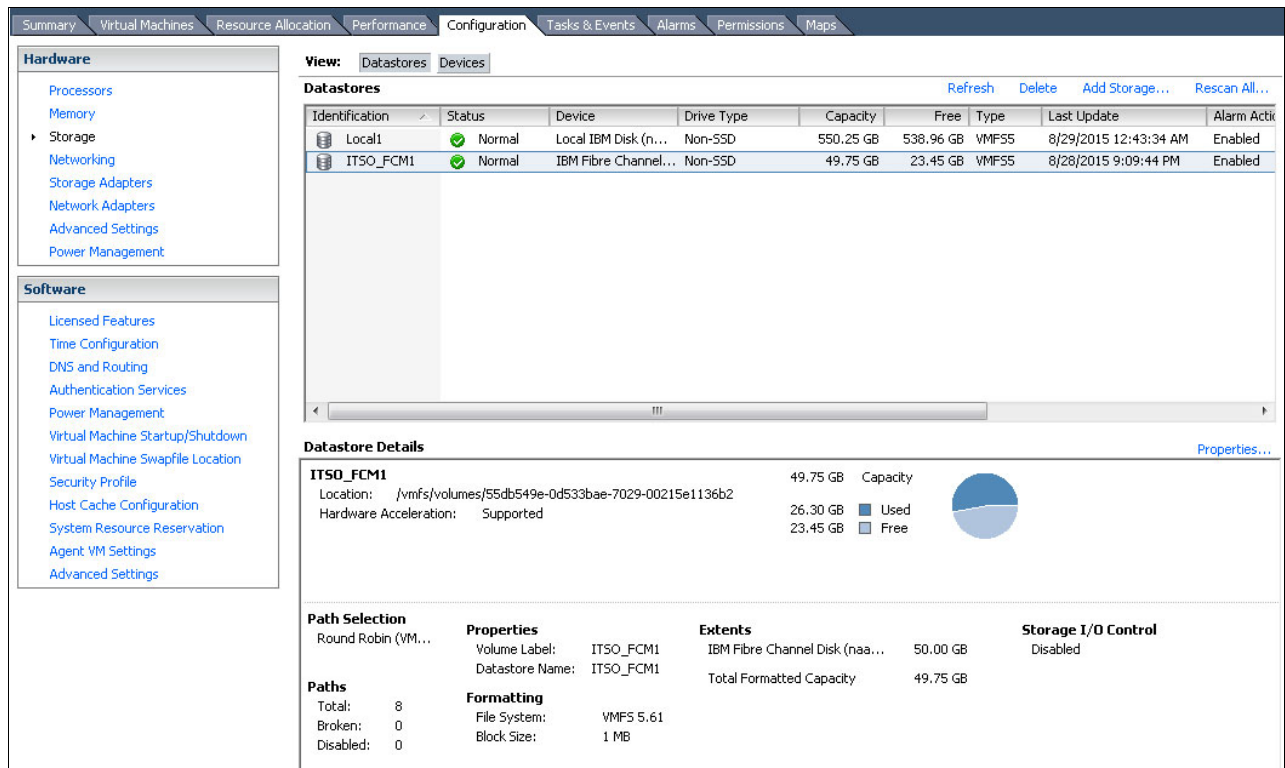

Figure 7-18 VMware storage configuration
ESXi does not automatically scan for SAN changes (except when rebooting the entire ESXi server). If you made any changes to your IBM FlashSystem V9000 or SAN configuration, complete the following steps (see Figure 7-18 on page 306 for an illustration):
3. In the Hardware window on the left side, click **Storage** (Figure 7-18 on page 306).
Now, the created VMFS data store is listed in the Storage window (Figure 7-18). You see the details for the highlighted datastore. Check whether all of the paths are available and that the Path Selection is set to Round Robin.